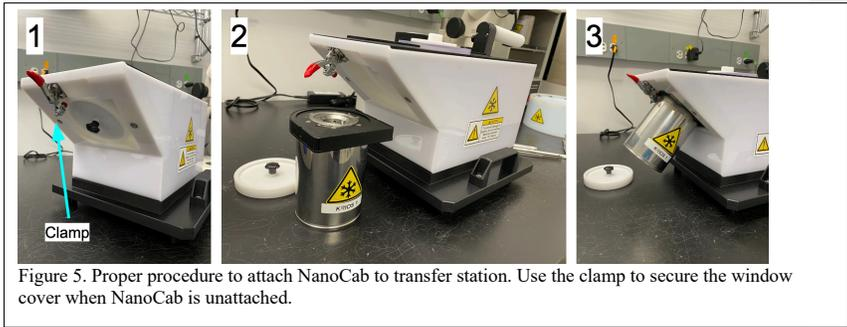

Figure 5. Proper procedure to attach NanoCab to transfer station. Use the clamp to secure the window cover when NanoCab is unattached.
4.5. Attach NanoCab to Cassette Loading Station and Position Cassette for Loading (Fig 5)